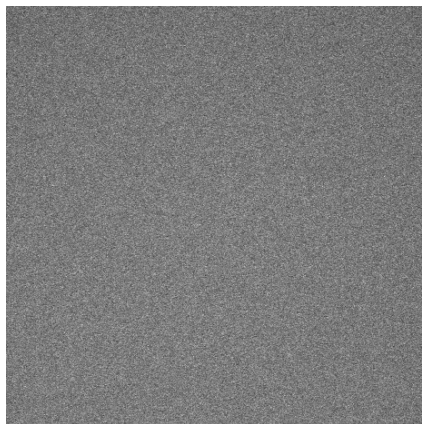

Fig. 9-132 Image of dye layer
- Obtain an LSM image of a dried layer of a suitable dye (Fig. 9-132). Optimize focus position.